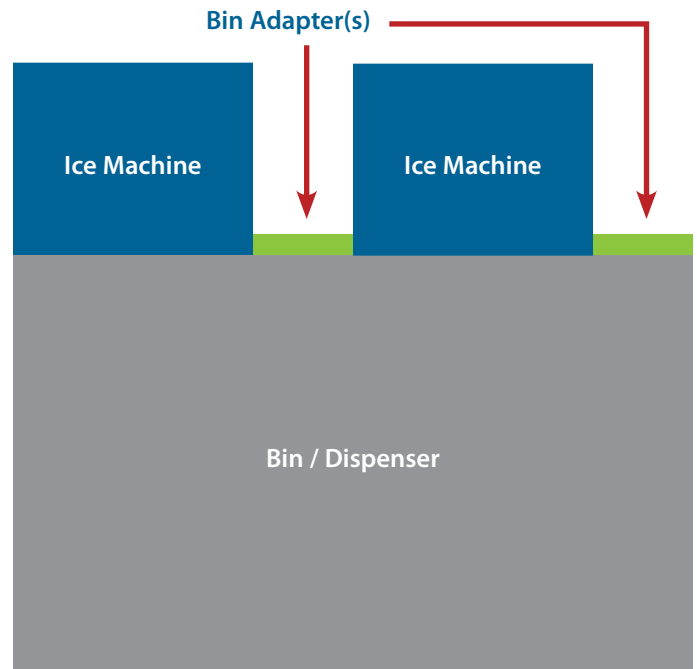

Fig. 6. TCIMs installed on both sides of the bin / dispenser.
- TCIM on both sides (configuration 2; see fig. 6)